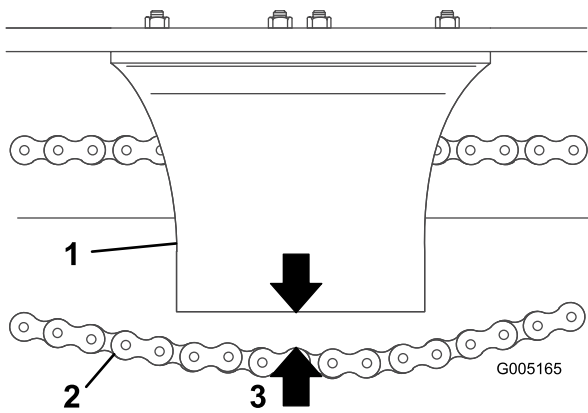

Figure 33
4. Measure the distance between the bottom of the chain guard and the lower chain span (Figure 33). If the slack in the chain is not within 1-1/2 to 2-1/2 inches (3.8 to 6.35 cm), adjust the tension (refer to Adjusting the Drive Chain Tension (page 30)).
6. Adjust the chain tensioning bolt until the distance between the bottom of the chain guard and the lower chain span is within 1-1/2 to 2-1/2 inches (3.8 to 6.35 cm) (Figure 33).